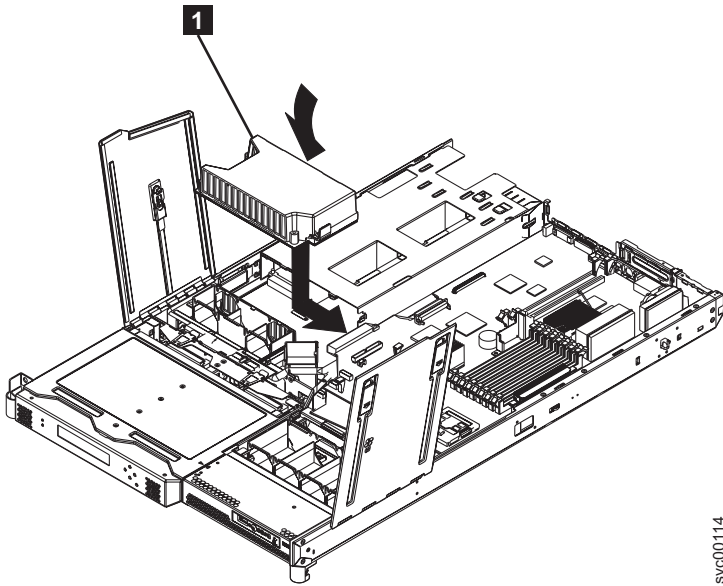

Figure 165. Replacing the SAN Volume Controller 2145-8F4 or SAN Volume Controller 2145-8F2 power backplane
1. Lower the power backplane into position on the SAN Volume Controller 2145-8F4 or SAN Volume Controller 2145-8F2 and slide it to the right to connect it to the system board. See Figure 165 on page 172.